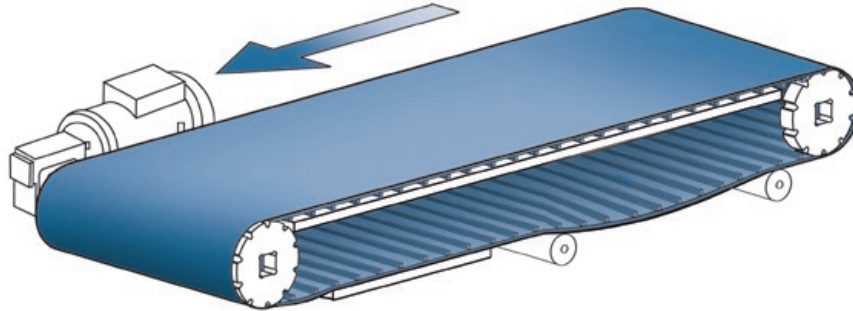

Figure 1
- The conveying side of the belt is traveling (pulled) toward the drive (powered) sprockets. See Figure 1.